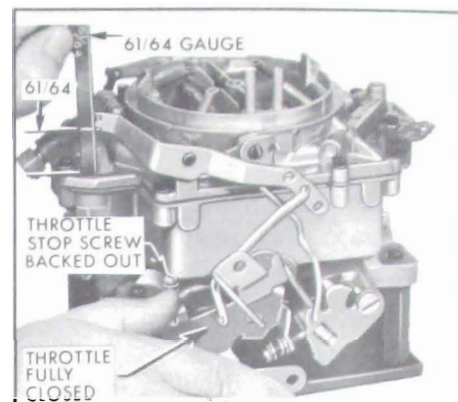

Figure 3-63—Checking Pump Plunger Adjustment
10. Pump Plunger Adjustment. Push fast idle cam to full down position and back out throttle stop screw until primary throttle valves can be fully closed. With throttle held closed and pump rod in center hole of lever, measure vertically from under side of pump plunger offset to air horn casting. See Figure 3-63. Measurement should be 61/64".